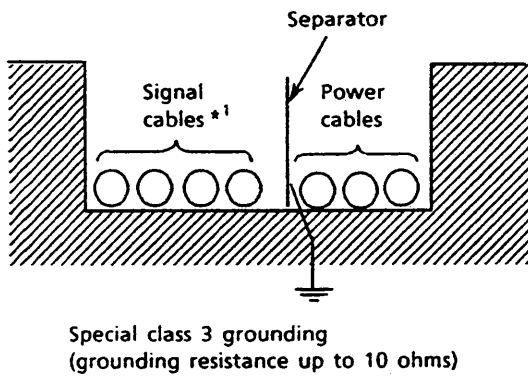

Figure 3.7 Separator in Duct and Pit
- (1) Condition 1: Install a separator as illustrated in Figure 3.7.